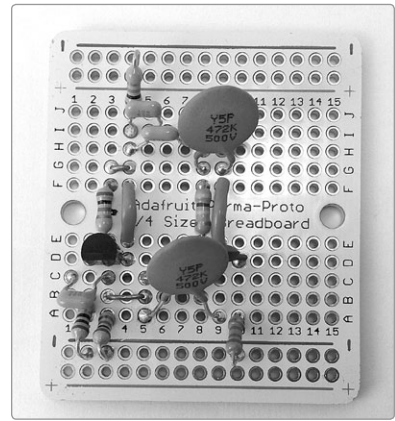

FIGURE 14-18: Starting the capacitor T in the twin-T filter
Step 15 To start the capacitor T, go find the two 0.0047 μF caps labeled 472. Place one horizontally from 5A to 9A and the other horizontally from 8G to 9G, as shown in Figure 14-18. Solder them in place.